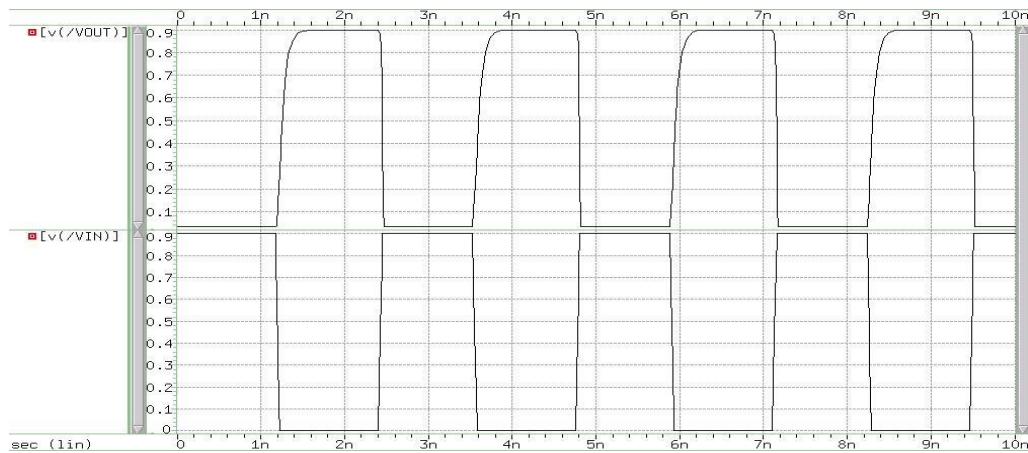

Fig. 1.2. Passive load RTL NMOS inverter symbol, electrical circuit, input and output signal waveforms
- Build the circuit for studying passive load RTL NMOS inverter characteristics based on data of table 1 (Fig.1.2).